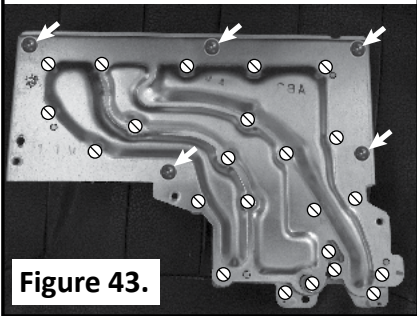

Figure 43.
NOTICE: Remove only the screws along the outside edges of the manifold plate. See Figure 43.
- If necessary, see Figure 43, p. 53.